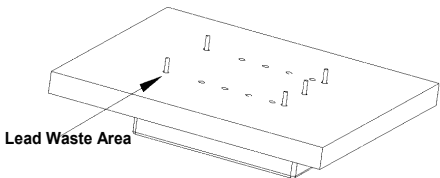

Figure 2
3. **Position correctly.** The trimming block and product should be placed upside down, with pins up, on a firm, ESD-safe surface that will keep the product and fixture from sliding. High quality flush cutters should be used to trim the leads even with the surface of the trimming block. See Figure 2.